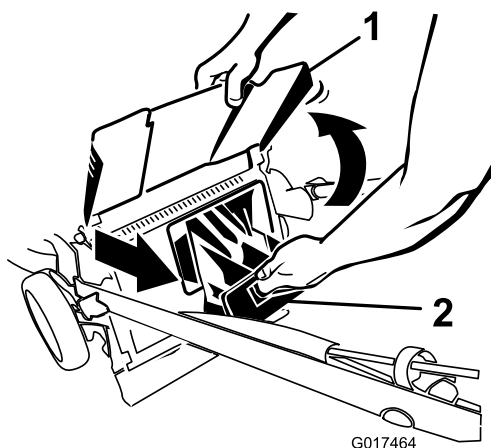

Figure 20
2. Raise and hold up the discharge deflector (Figure 20).
3. Pull out the rear-discharge plug (Figure 20).